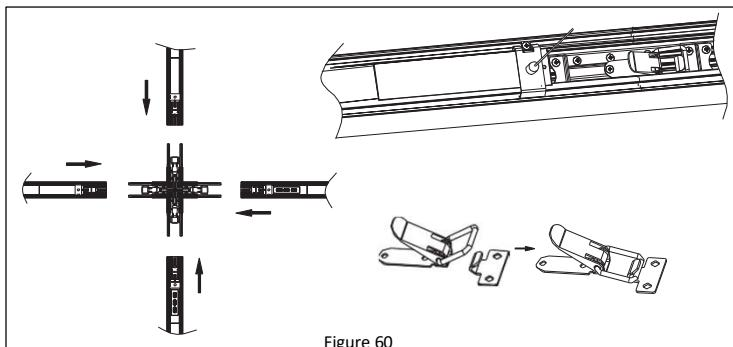

Figure 60
5. Insert the "X" connector into the fixtures and pull the lock buckle to secure the fixtures. *See Figure 60.*